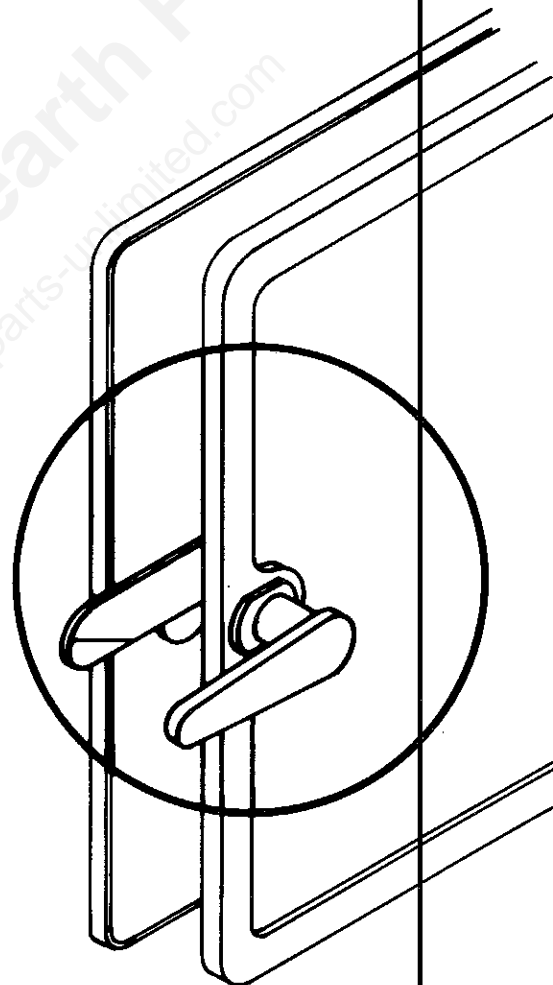

FIG. 15
4. Then to open door, turn the handle counter clockwise to the 9 o'clock position and then continue to pull the door open. (Fig. 15).